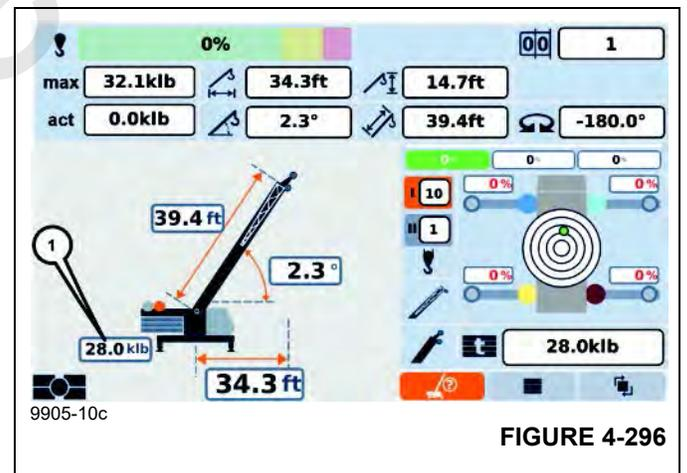

FIGURE 4-296
Indicated counterweight combination in tons (t) or kilo-pounds (1), (Figure 4-296) for displayed RCL code.